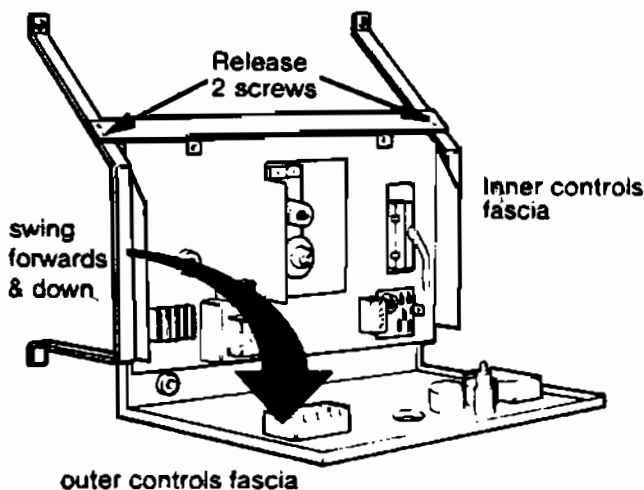

Fig. 20
6.6.8 Check Burner pressures (figs 20 & 21)